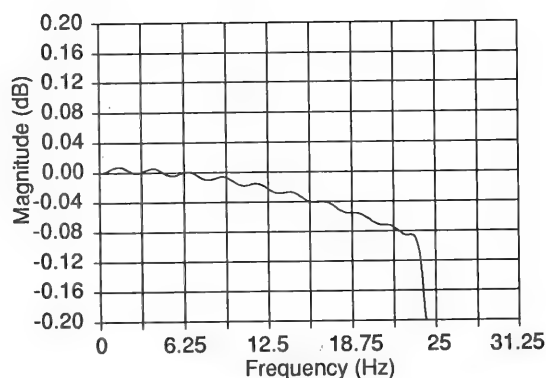

Figure 2. CS5322 Digital Filter Passband Ripple
**FILTER CHARACTERISTICS** ( $T_A = T_{min}$  to  $T_{max}$ ;  $V_{D+} = 5V$ ;  $GND = 0V$ ;  $CLKIN = 1.024 MHz$ ; transfer function shown in Figure 2; unless otherwise specified.)